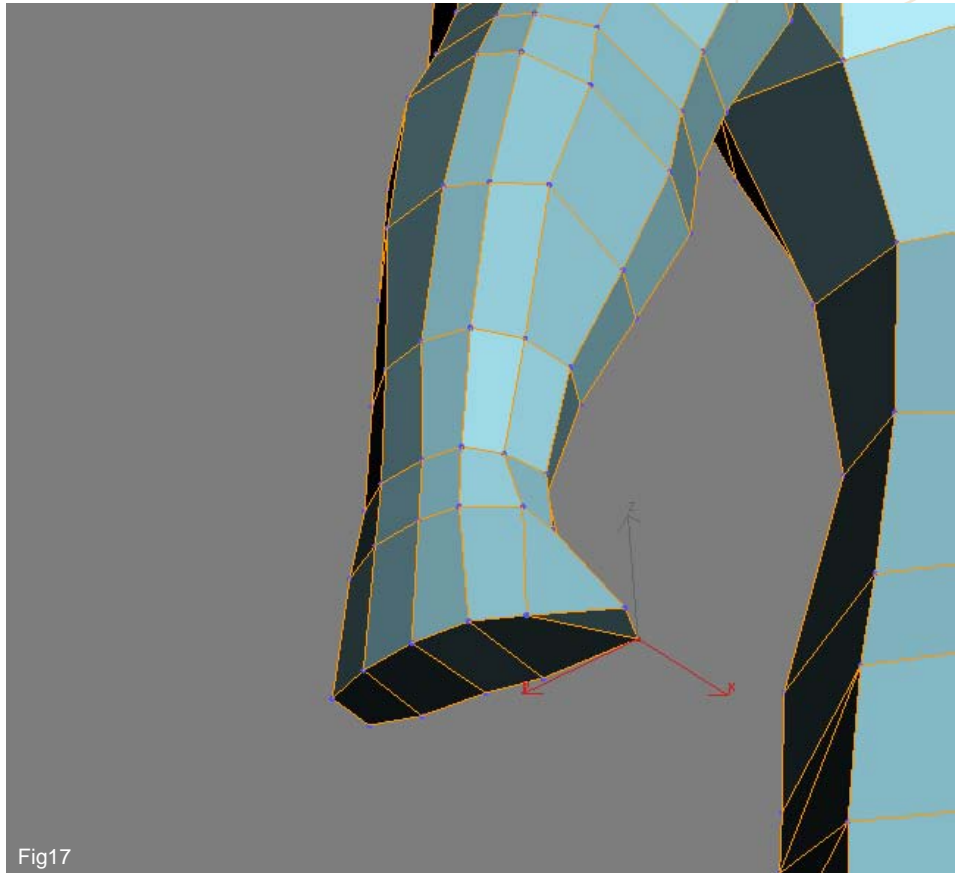

Fig17
17. In order to prepare for the thumb extend the two right most verts outward as shown in Fig17.